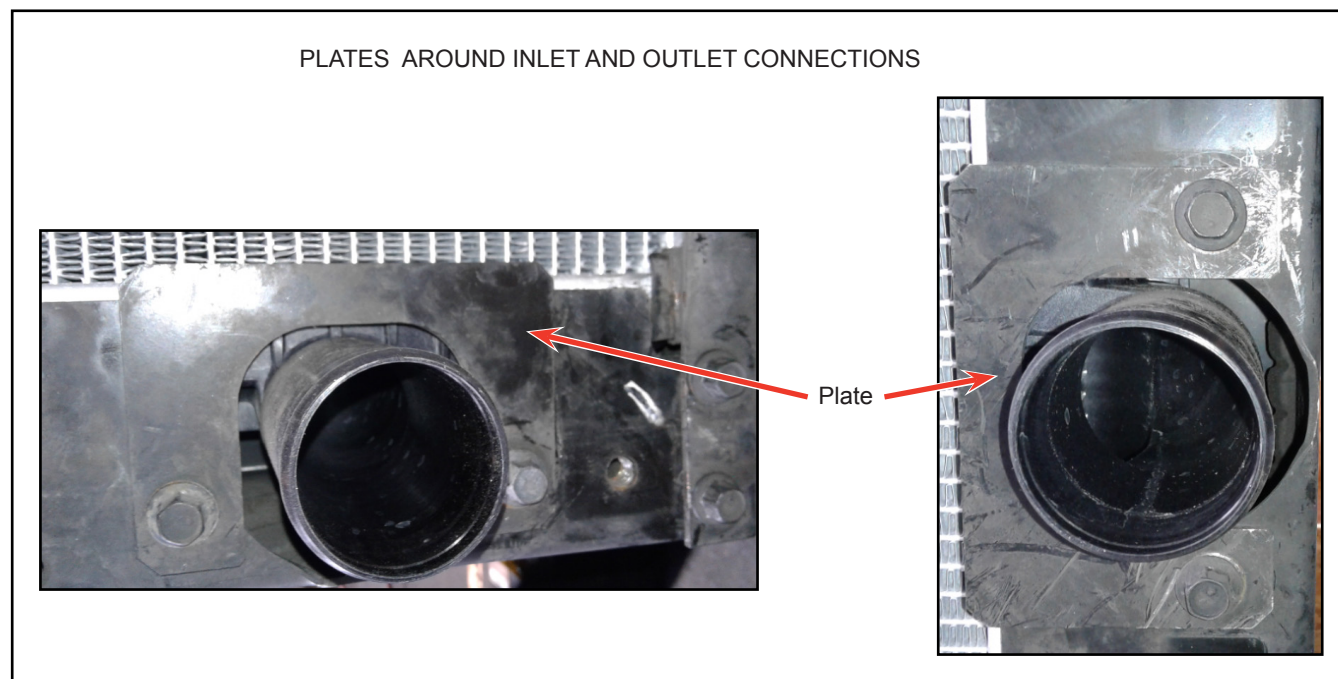

Figure 12 - Typical View of Plate Installation around Inlet and Outlet Connections
- 1.32. Install the plates around the inlet and the outlet connections (see Figure 12).